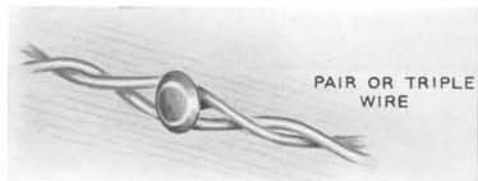

FIG. 19—INSIDE WIRING NAILS
7.05 Inside Wiring Nails are shown in Fig. 19.